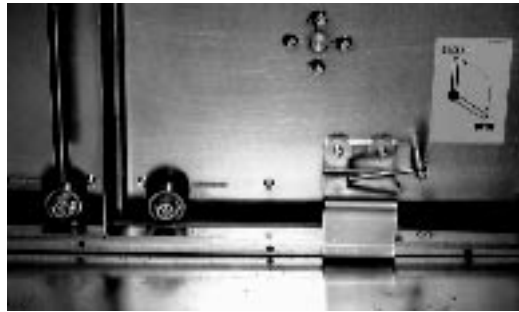

Figure 323. Backup Roll Pressure Handle
7. Rotate the backup roll pressure handle, as shown in Figure 323, clockwise to loosen the pressure against the speed roll.